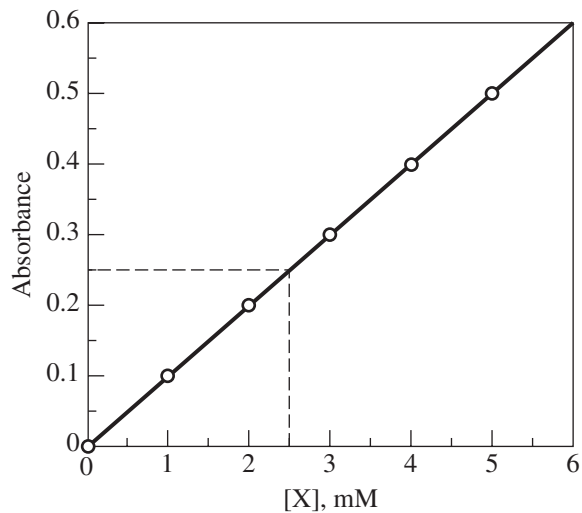

Figure 45.2
The answer is as follows: we will construct a standard curve, and then read the value off the graph. First, we plot the measured absorbance versus concentration for each solution. We plot our unknown sample's absorbance directly on the graph and read the concentration to which that absorbance corresponds. We simply find the absorbance on the y-axis, go across the graph until we get to the line, plot our data point, and read off the x-axis the value of the concentration. This is shown in Figure 45.2.
5. Refer to Figure 45.2. A substance absorbs with a value of 0.45. What is the concentration in mM?